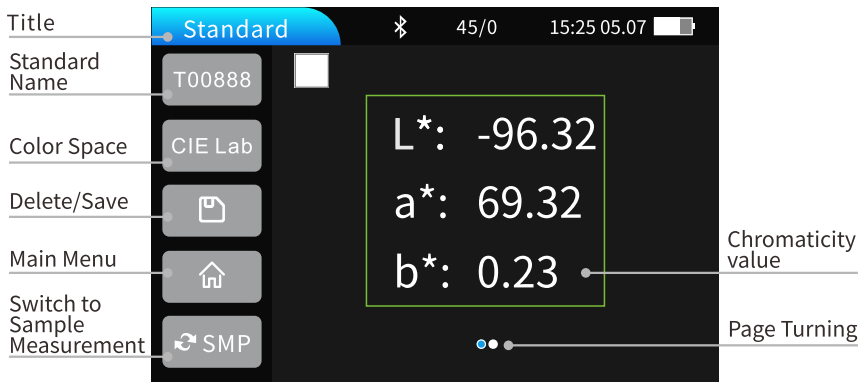
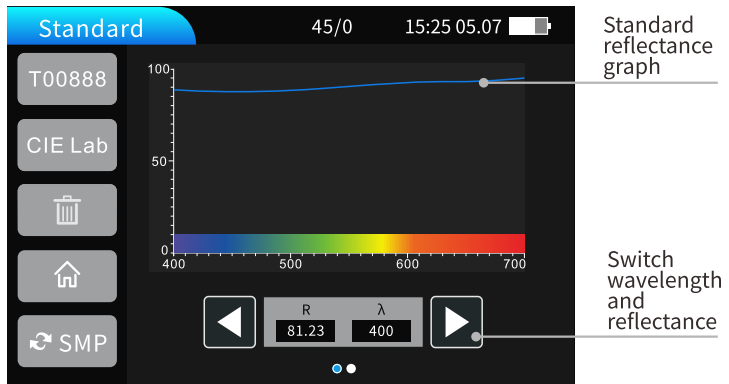

Figure 4 Standard Measurement Interface
Figure 5 Standard Measurement
In the standard measurement interface, align the standard sample with the instrument's measurement aperture and press firmly. Gently press the measurement button; the buzzer will emit a "beep" sound, accompanied by the LED indicator flashing and then turning off. The buzzer will beep again, indicating the test is complete. The interfaces after the sample is tested are shown(Figure 4 &Figure 5). The standard sample interface is detailed below:
8. Wavelength Switch Button: As shown in Figure 5, tap the ◀ ▶ button to switch the current test sample's light wavelength and reflectance at intervals of 10nm.